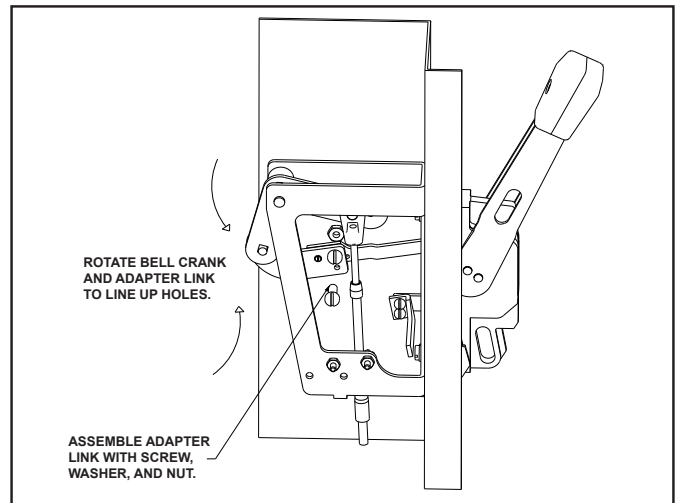

Fig. 1-5 Assembly of Adapter Link to Actuator Link.
5. Rotate the bell crank towards the handle and rotate the handle to the On position. Align the adapter link and attach it to the actuator link using the 1/4-20 pan head screw and nut. See Fig 1-5.